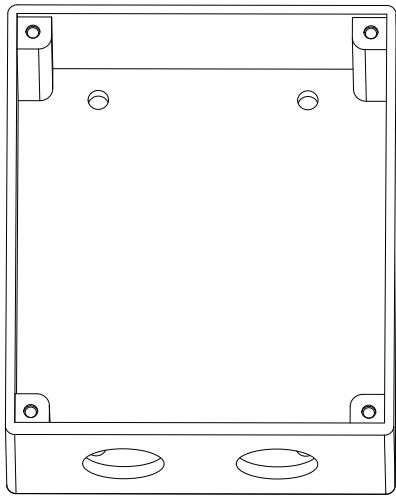

Figure 3 - Control Terminal Connectors
Make connections to the control and the motor in accordance with the Connection Chart. The control terminal 1/4" spades (Figure 3) are located inside the control enclosure on the PC board. To ground the control mounting plate, connect ground wire to the ground terminal located on the on/off switch
3. Check all the connections at the control terminals and at the motor. Make sure that they are tight and are made according to Figure 3 and the Connection Chart.